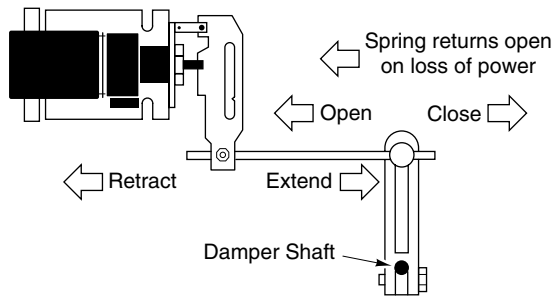
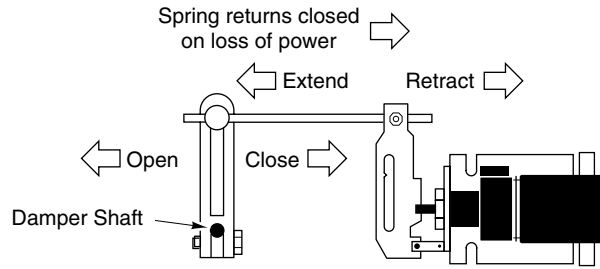

Figure-14 Dampers Open When Actuator Retracts (Spring>Returns Open on Power Loss).
Figure-15 Dampers Open When Actuator Extends (Spring>Returns Closed on Power Loss).
- a. Determine, from the system requirements, if the damper should spring-return to the open position (Figure-14) or closed position (Figure-15) whenever power is lost to the actuator. For example, an outside air damper actuator is typically linked so as to retract (spring-return) to the damper's fully closed position (safe position).